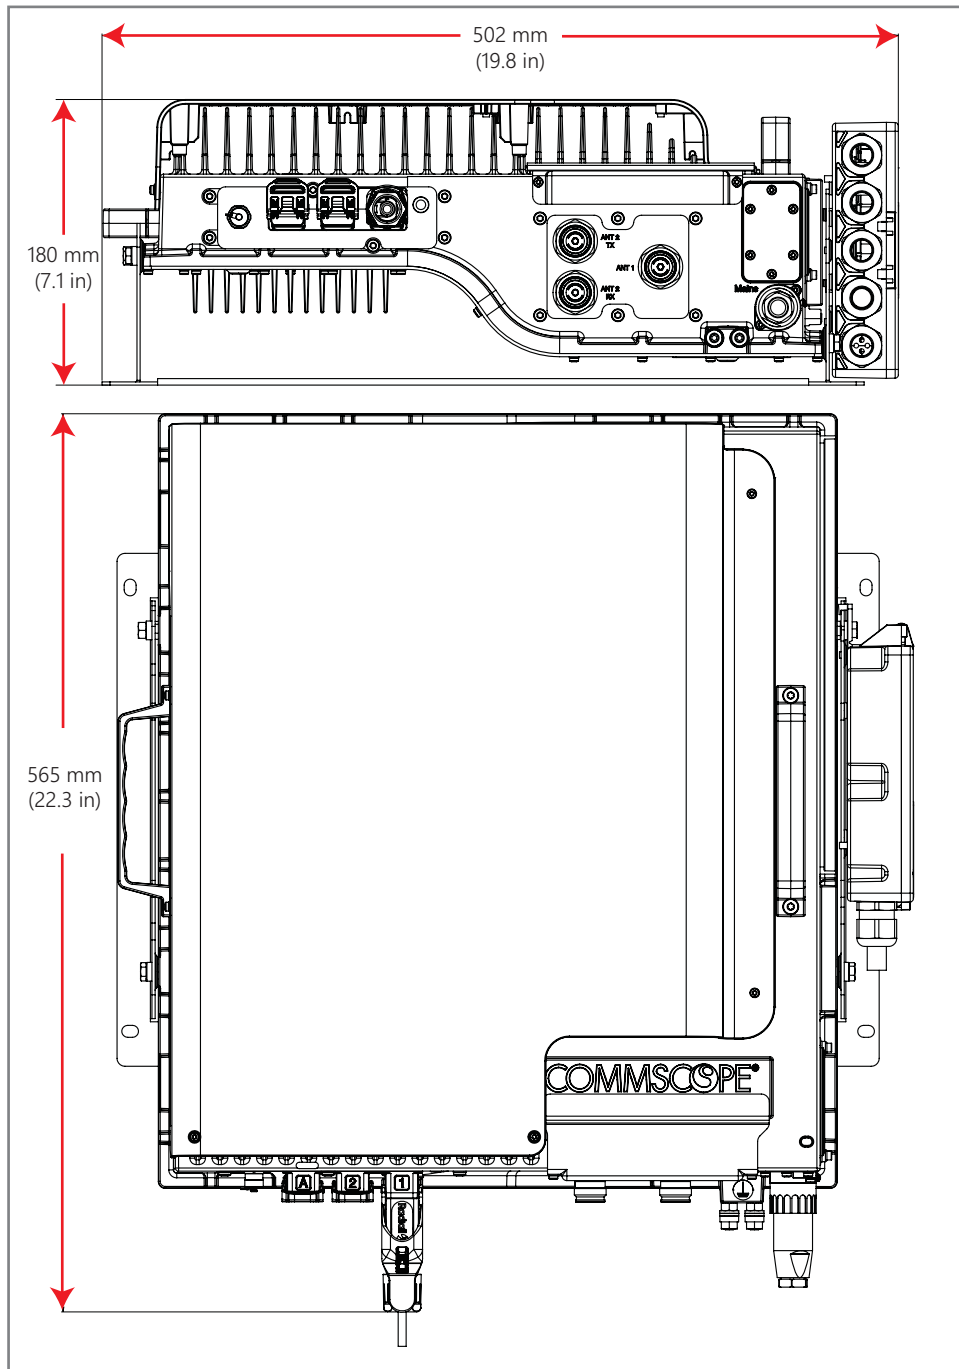
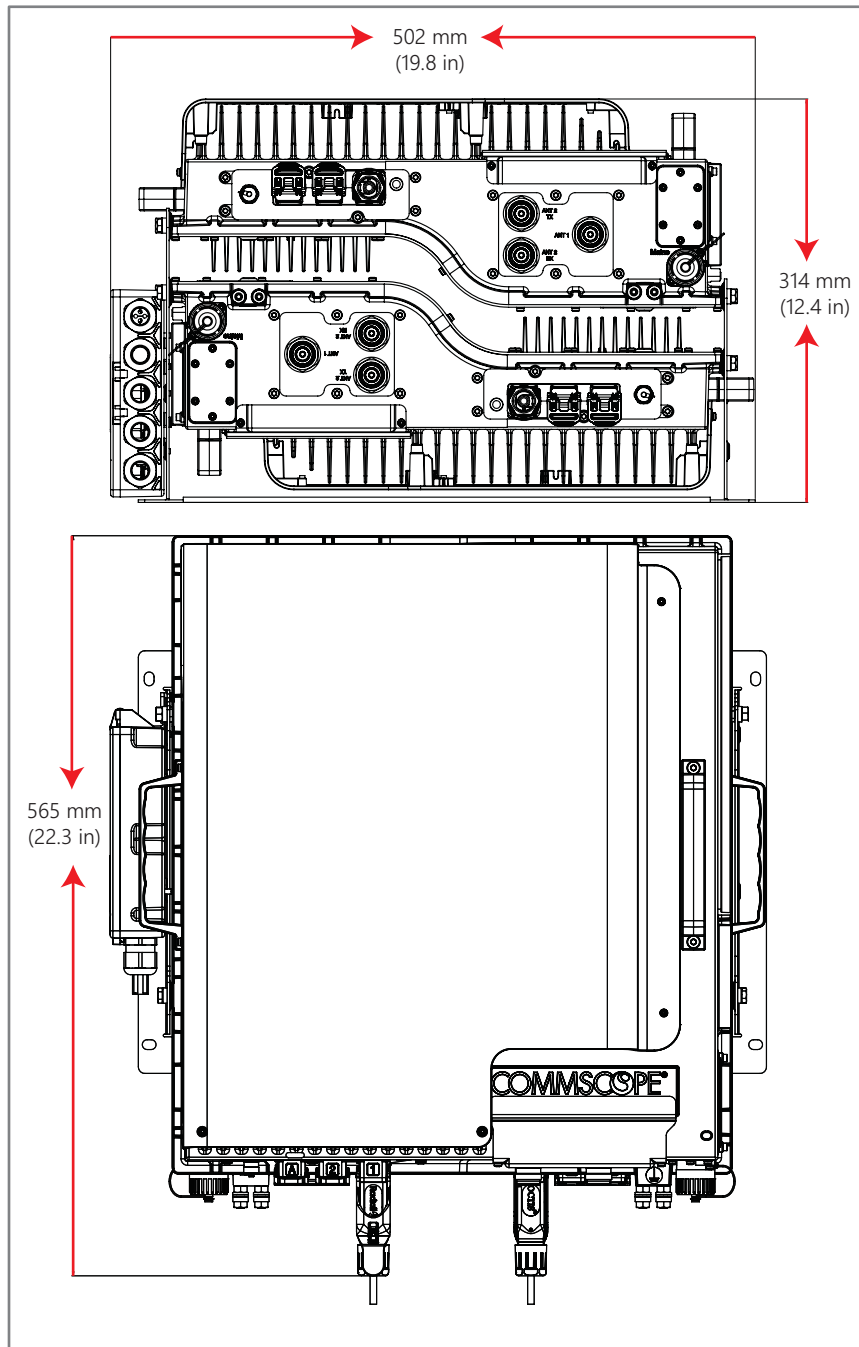

Figure 4. Mounting Dimensions with the Single Mounting Bracket
Figure 5. Mounting Dimensions with the Dual Mounting Bracket
- Use the dimensions shown in Figure 4 on page 20 for Single Mount and Figure 5 on page 21 for Dual Mount.